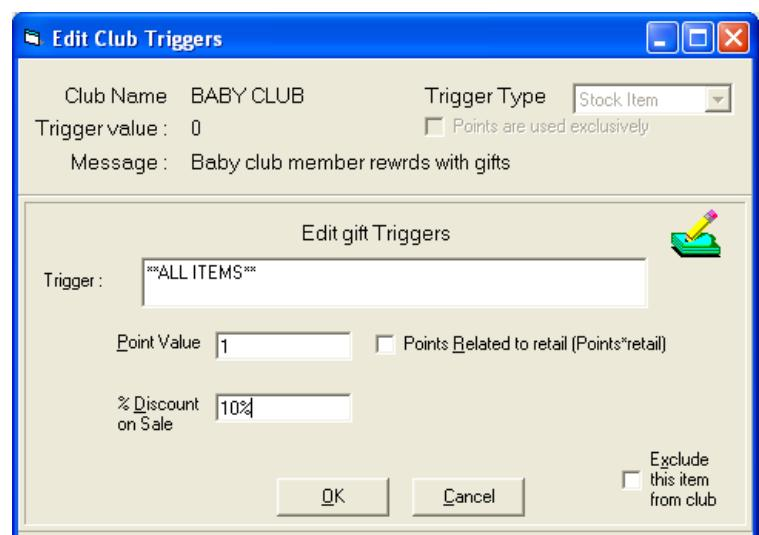

Figure 401
3. When setting up the club triggers tick the 'Discount on Sale' option and enter the discount you wish to give to club members (see Figure 401).